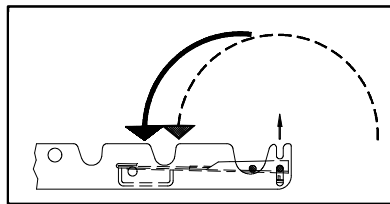

FIGURE 3-9: STORE OUTER ROLLSTOP
- 2) Refer to **Figure 3-9**. Store outer rollstop by lifting and folding it rearward from either its vertical or open position.